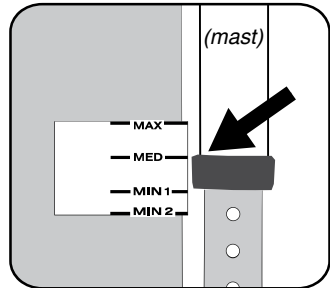

Figure 4: Move the calibration gauge so the medium mark lines up with the bottom of the mast.
e) Now, remove the downhaul gauge from the velcro and move it so that the medium mark lines up with the bottom of your mast (figure 4).